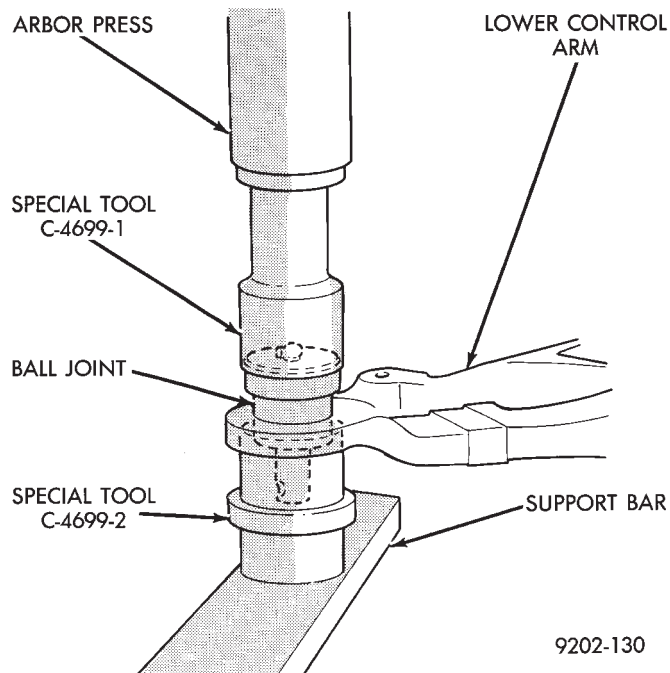

Fig. 3 Installing Ball Joint
(2) Position assembly in press with Installer Tool C-4699-2 supporting control arm (Fig. 3).
(3) Install the Remover/Installer, Special Tool C-4699-1 over the ball joint stud and down on the lower body of the ball joint assembly (Fig. 3).
(4) Carefully align all pieces. Using an arbor press apply pressure against the ball joint assembly, until